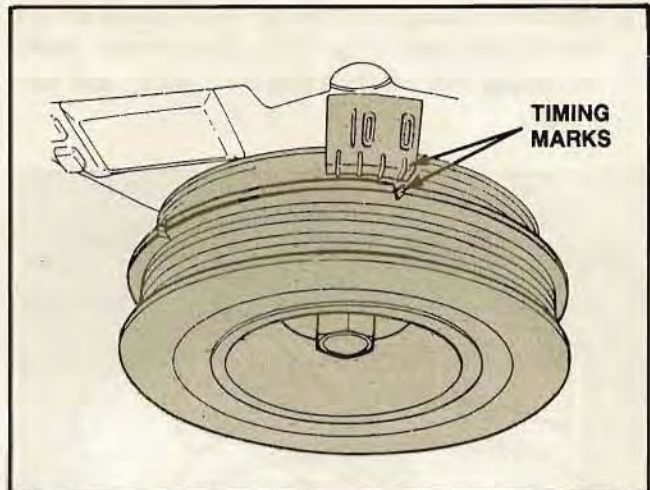

Figure 130. Setting Engine to No. 1 TDC on the Compression Stroke
8. Set No. 1 cylinder at TDC on the compression stroke. To do this, rotate the crankshaft and align the white timing mark on the crankshaft pulley with the zero mark on the timing belt cover No. 1 (Fig. 130). This is approximately 60 degrees from the 12 o'clock position.